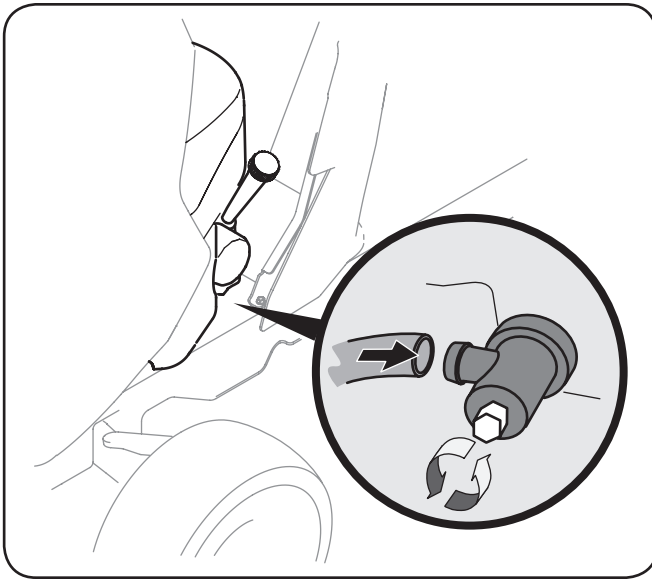

Figure 6-1
4. Push the oil drain hose (packed with this manual) onto the oil drain port. Route the opposite end of the hose into an appropriate oil collection container with at least a 2.5 quart capacity, to collect the used oil. See Figure 6-1.
5. Open the oil drain plug by loosening the bolt on the side of the plug. See Figure 6-1.